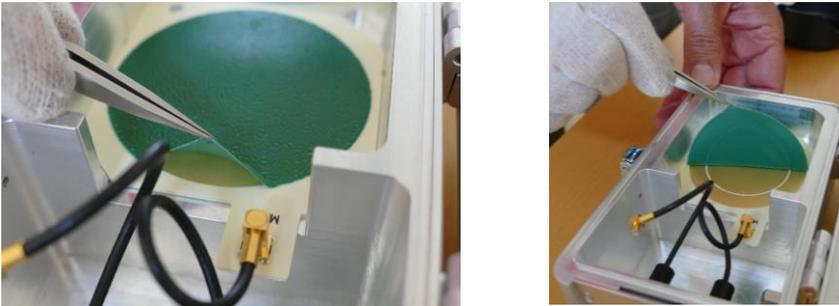

Figure 4-3: Removing the protective coating from the MEAS electrode
7. Remove the green lamination screen from the MEAS electrode as shown in Figure 4-3.